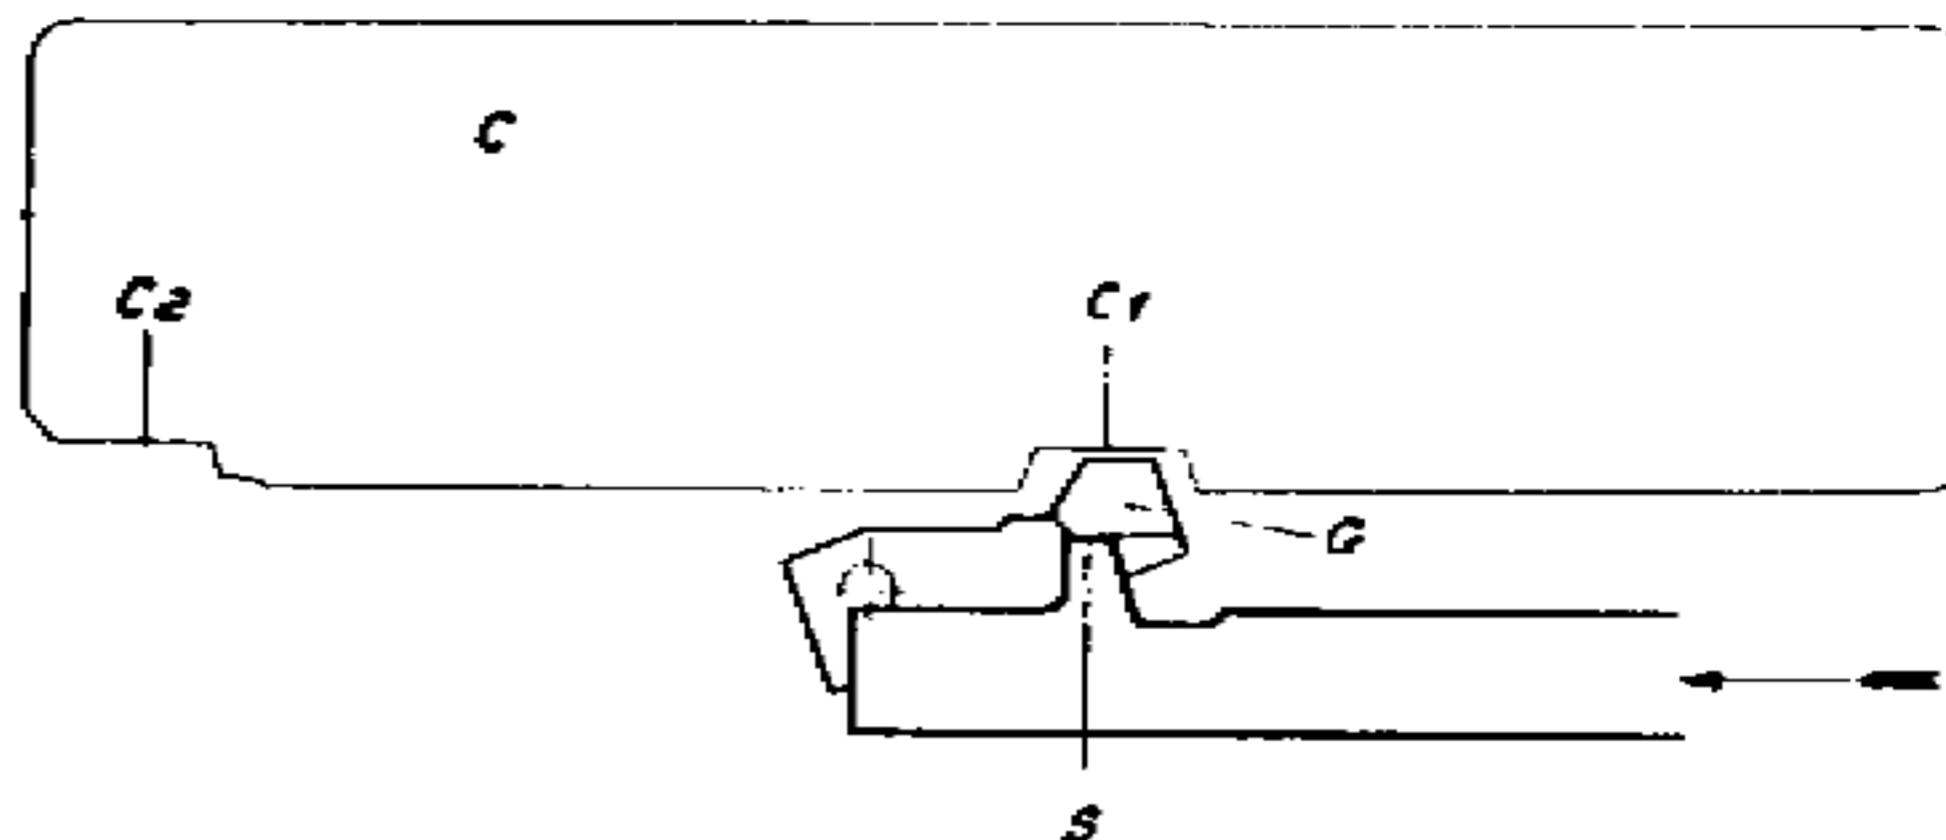

Fig. 9.
a) **Automatic safety, pistol grip.** — The safety sear fulfils two functions (fig. 9).